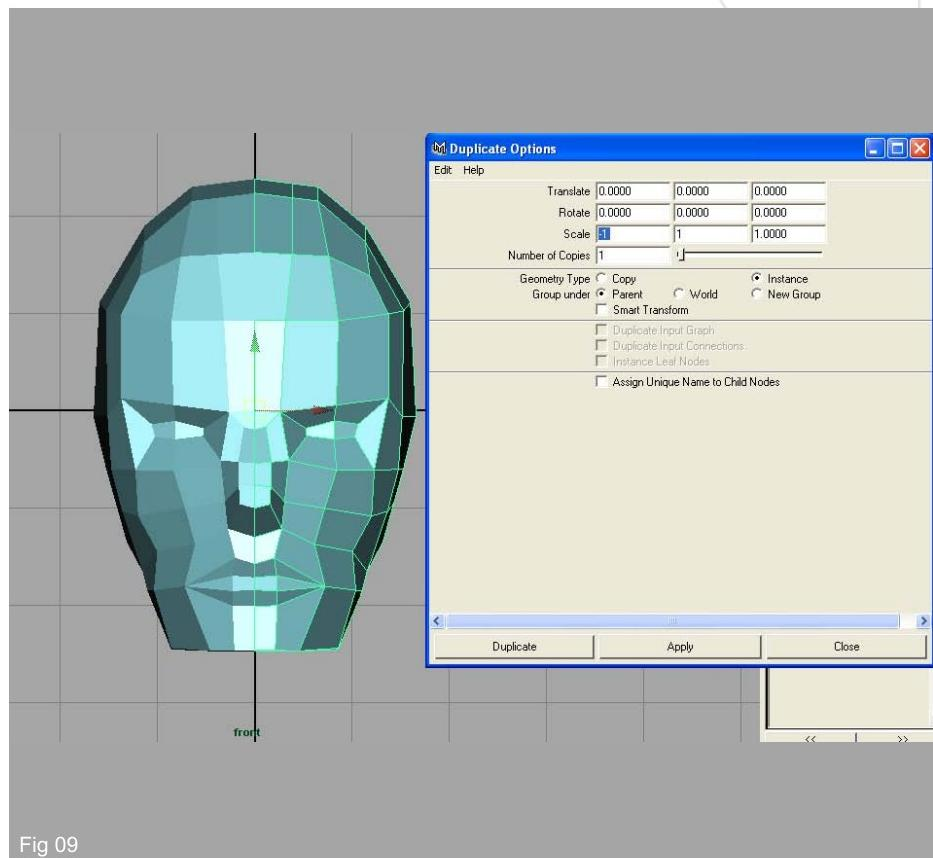

Fig 09
9. Select your halved head and duplicate it (Edit < Duplicate < Options Box). In the duplicate options box set the X Scale to “-1”. This will mirror the geometry. Also, change geometry type to “instance”. This will make your duplicate follow along with your original model as it’s updated. Hit duplicate when you’re done and you should have a mirrored version of your head. If it’s not in the right place, move it so it’s aligned properly with the original head. (Fig 09)